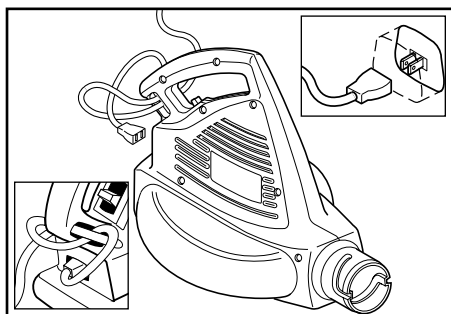

Fig. 14
2. Secure the extension cord to motor housing as shown (Fig. 14).